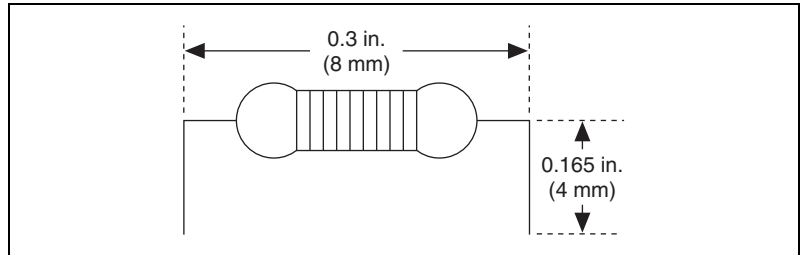

Figure 4-11. Preparing Lead Wires of Replacement Resistors
2. Cut and bend the lead wires of the resistors you want to install. Refer to Figure 4-11.